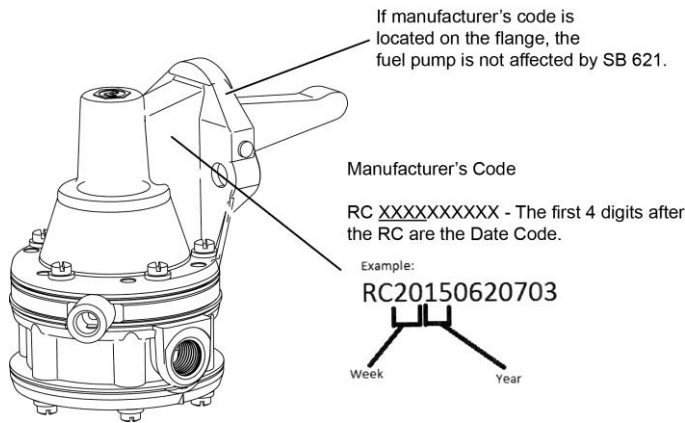
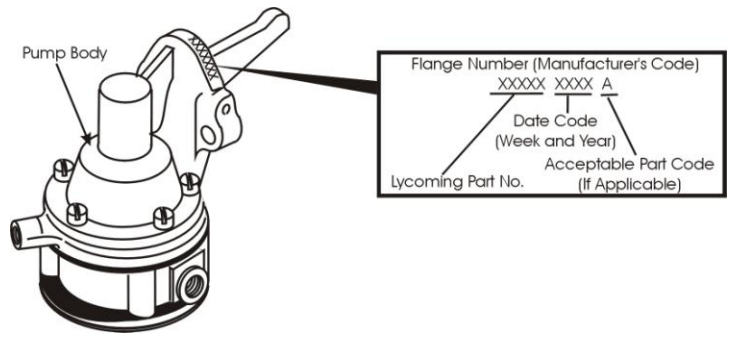

Figure 1
Figure 2
NOTICE: Each fuel pump has a 13-digit alphanumeric manufacturer’s code, which begins with two letters as shown in the example in Figure 1. The alphanumeric characters in the manufacturer’s code and its location on the fuel pump will help identify the fuel pumps affected by this Service Bulletin. The first two characters in the example manufacturer’s code RC20150620703 in Figure 1 are **RC**. The next two numbers **20** identify the manufacturing week of the year as **20** and **15** is the year. The manufacturer’s code is on the fuel pump flange or on the web as shown in Figure 1. If the manufacturer’s code is on the flange as in the example in Figure 2, the fuel pump is not affected by this Service Bulletin.
3. If the fuel pump has **RC** (Figure 1) as the first two letters of the manufacturer's code.